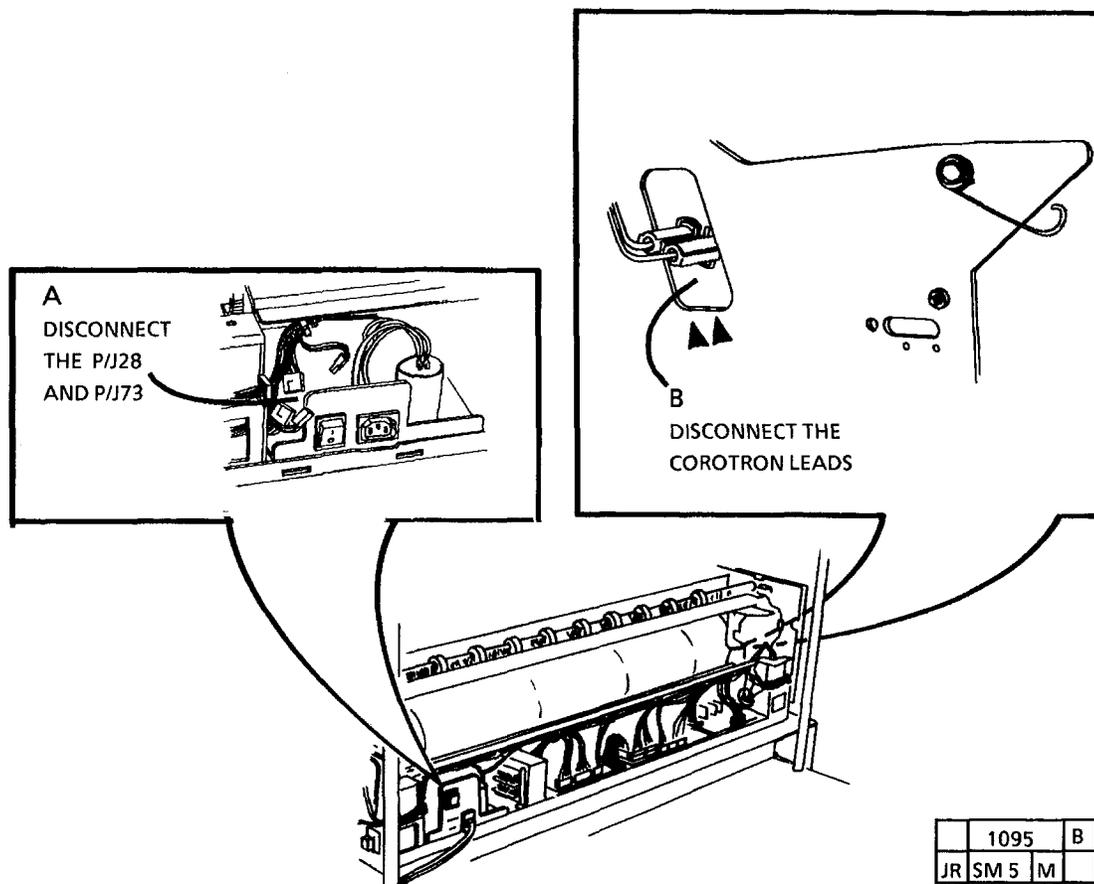

Figure 1. Prepare to Remove the Media Transport Module
3. (FIGURE 1): PREPARE TO REMOVE THE MEDIA TRANSPORT MODULE.